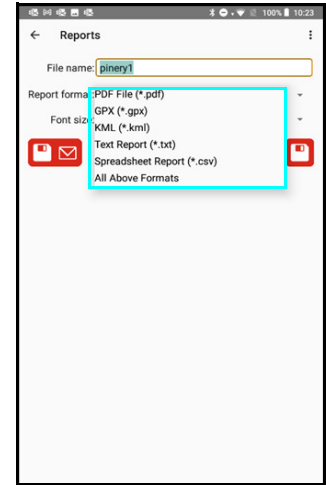

Figure 30
- At the Span menu, tap the  icon in the upper right portion of the screen. The Report Menu will display (Figure 30).